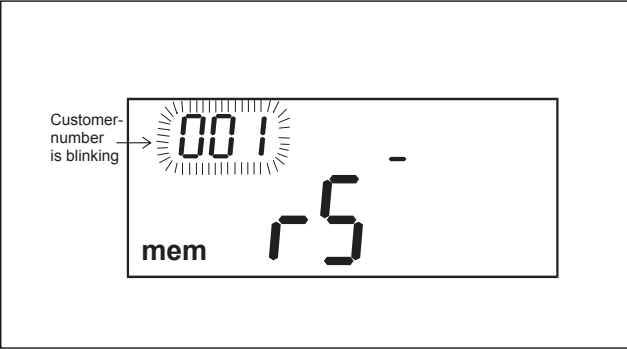

Fig. 9.17
- Press the **RS 232** key to display the Customer and UUT Number. Please refer to Fig. 9.17.
- Enter the respective UUT Number via the numerical keypad (11). The number consists of six digits and must have a value between 000 001 and 999 999. There is no need to enter the leading zeros (e.g. 001 234). The **ENTER** key is used to switch between UUT and customer number.